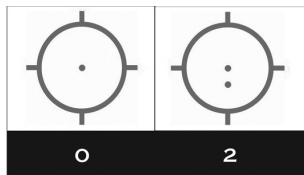

Fig. 1 EXPS2 reticle options
The EXPS2 is offered with one of the following (2) reticle options (see fig. 1):
- 2- 68 minute ring with vertical and horizontal stadia and (2) 1 MOA aiming dots